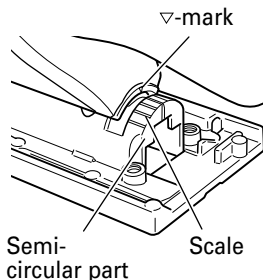

Fig. 21
- (2) Align the scale (from 0 degrees to 45 degrees by 15-degree increments) of the semi-circular part of the base with the [▽] mark on the gear cover. (Fig. 21)